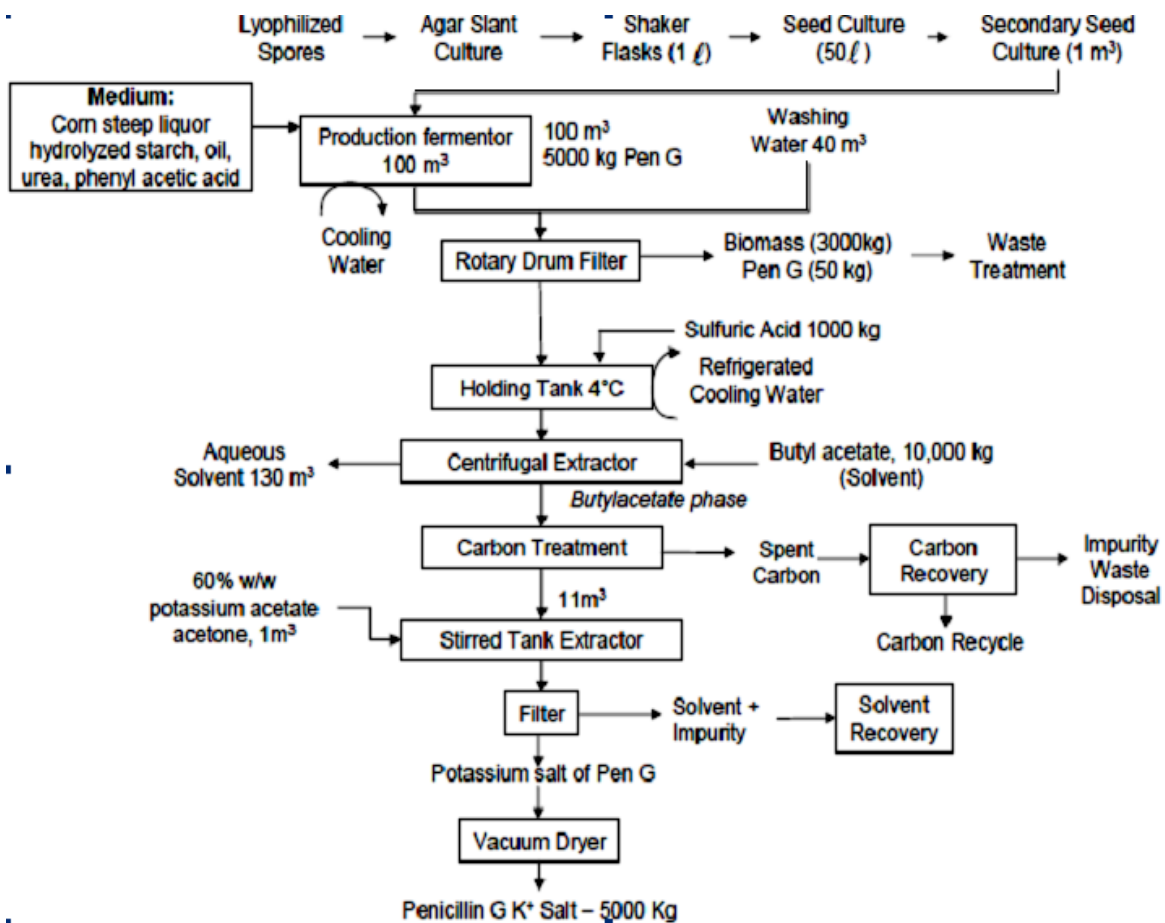

Figure Q.1.
1. Penicillin G (molecular weight = 334.42 kg/kgmol) is a microbial compound that inhibits and even destroys other organisms. It is an antibiotic which is secreted by microbial cells. A typical Penicillin G production route is shown in Figure Q.1. Based on Figure Q.1., identify and explain the function of any FOUR(4) unit operations used in downstream processing of Penicillin G (use RIPP scheme as a guide). Suggest the alternative methods for the unit operation, justify your selection.